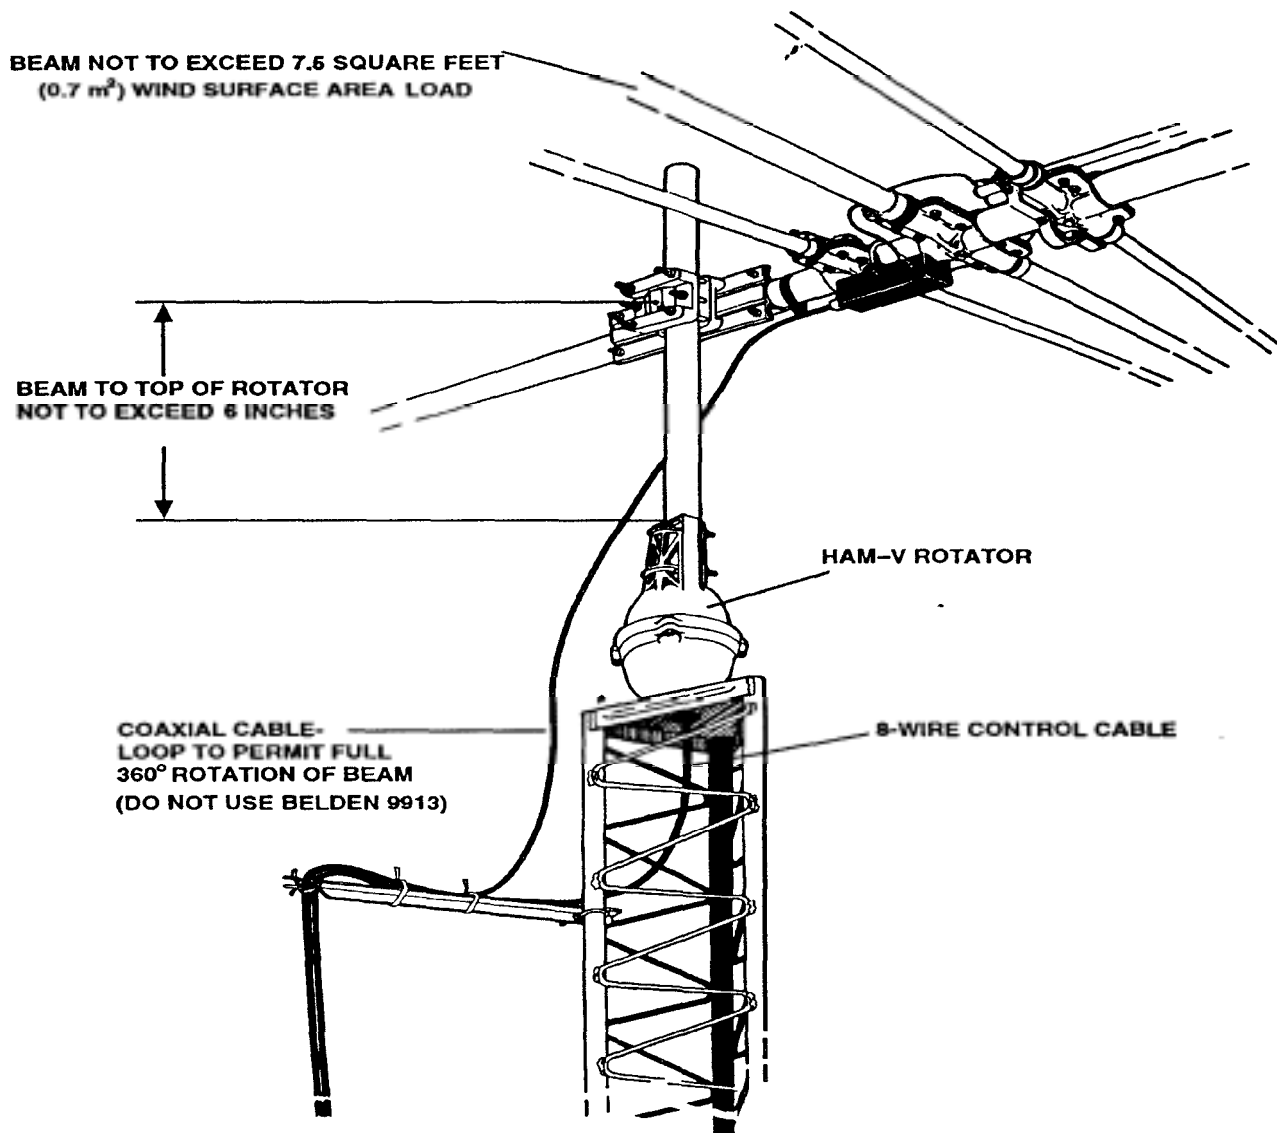

Figure 4 Rotator Mounted on Tower
The rotator is mounted to the top surface of a tower, see Figure 4, by means of four (4) bolts furnished in the hardware kit. Use the following
1. Position the rotator on the top surface of the tower or other support structure and attach by means of four (4) bolts and lockwashers. The top of the tower must be cut out to allow the connecting 8-wire cable with connector to pass through the plate. If a new hole must be made, use the template in the back of this manual. Tighten the four (4) bolts.
3. Assemble the mast to the rotator using the U-bolts, nuts, lockwashers, and clamp plate as shown in Figure 4. Apply a coating of heavy-duty motor oil or grease to the threads of the stainless steel U-bolts to prevent seizing. Tighten all bolts securely.